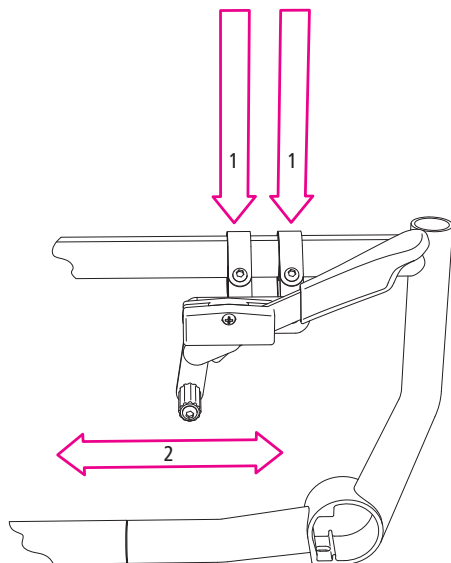

Fig. 62
1. To do this, loosen the two clamp screws that connect the brake carrier to the side frame (1, Fig. 62).
2. You can now move the brake carrier until the desired distance is reached (2, Fig. 62).
3. Then tighten both screws again (1, Fig. 62).